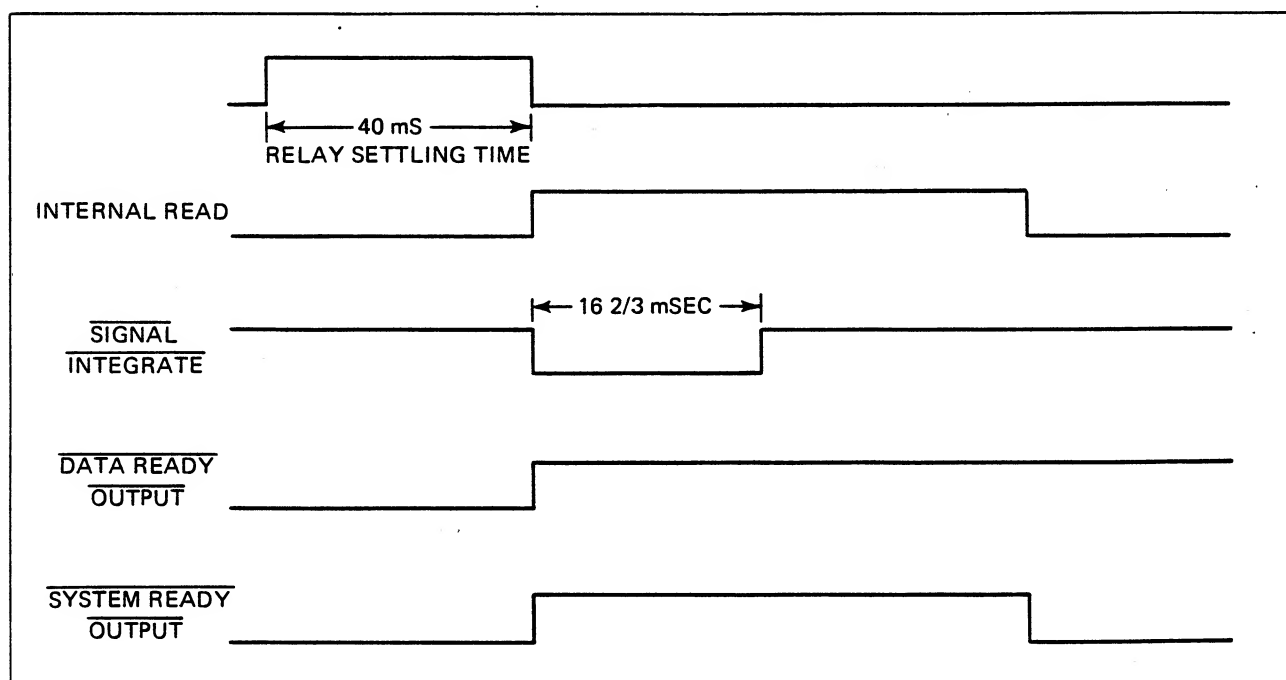

Figure 3.22 - Internally Generated Timing Chart
3.5.6.6.2 With the Hold line selected, changing the Function or Range function generates an internal reading. The System Ready output is directly set or reset by the Signal Integrate line as shown in Figure 3.22. If System Ready Output is used to generate readings, it will create a valid reading after the Function or Range is changed.